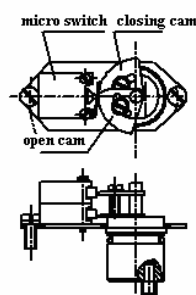

Fig.2 Torque control mechanism
1.3.4 Torque control mechanism: it controls the valve according to the output torque set by the electric actuator, both in valve open and close direction. Torque signal comes from an axial movement from which electrical worm compresses Belleville spring. Torque switches are made of cams. (see Fig.2)
★ The torque mechanism has been tested and set up before delivered from the factory. It complies with the maximum torque value written on the nameplate. User does not need to readjust. (see Fig.2) Besides, fasten two mechanical limit screws on the main case body. It is better not to unscrew the mechanical limit screws if there is no special condition.